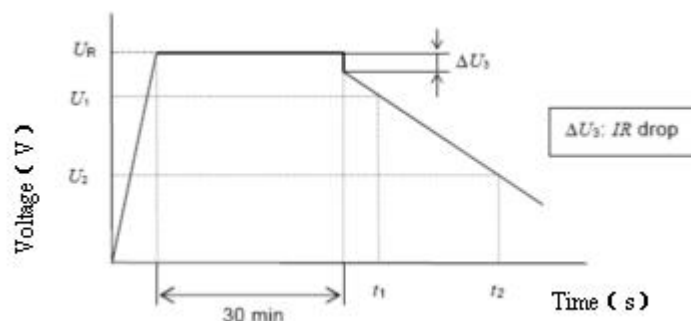

Figure 2 – Voltage characteristic between capacitor terminals
- Unless otherwise specified in the individual standards, measure the time  $t_1$  and  $t_2$  where the voltage between capacitor terminals at the time of discharge reduces from  $U_1$  to  $U_2$  as shown in Figure 2, and calculate the capacitance value by the following formula